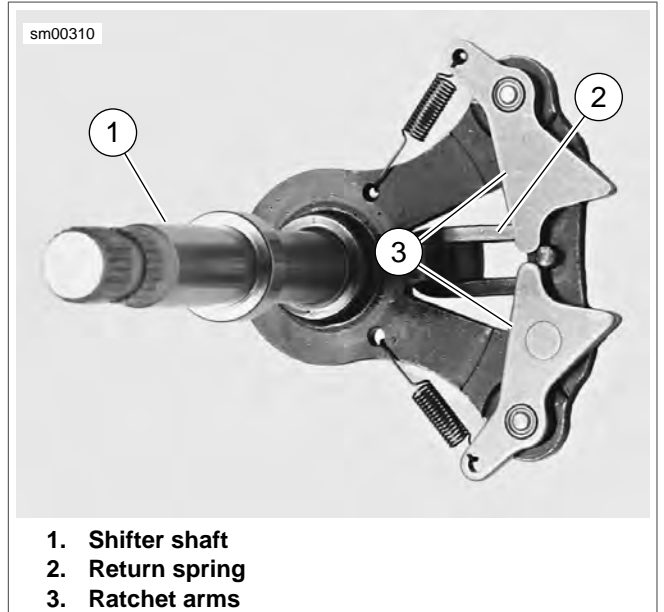

Figure 5-50. Shifter Shaft Assembly
- 12. See Figure 5-50. Depress ratchet arms (3) in order to clear the shifter drum and remove shifter shaft assembly from left crankcase half.